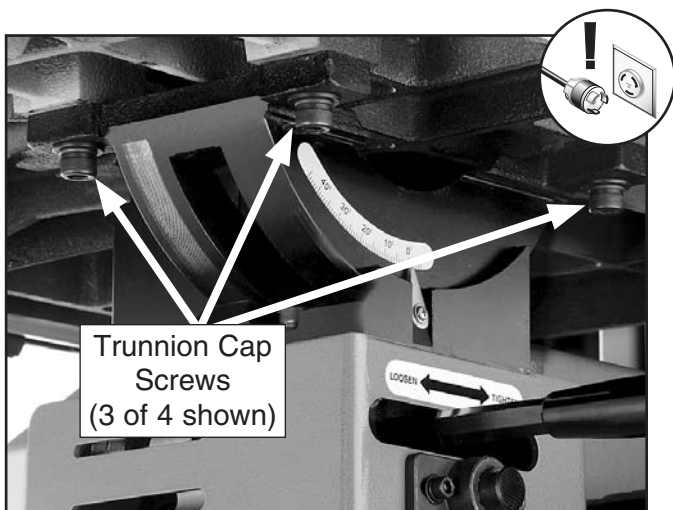

Figure 26. Trunnion cap screws (3 of 4 shown).
- From underneath the table, loosen the four trunnion cap screws that secure the table (see **Figure 26**).